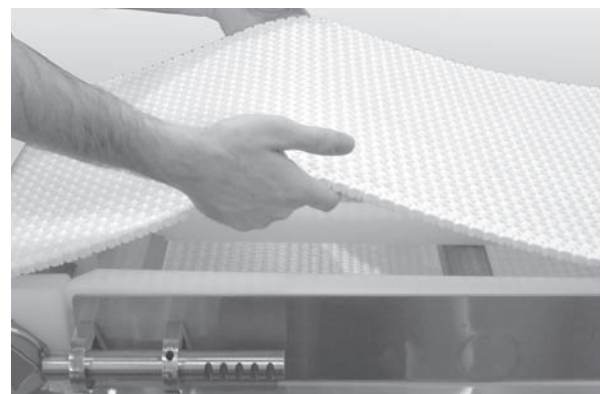

Figure 41
3. Lift up on the belt (**Figure 41**).